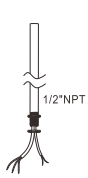
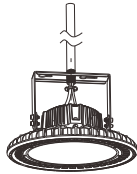

Figure 8
Figure 10
1. Unscrew the nut on a 1/2" NPT. (Figure 8)
3. Re-cycle and tighten the nut (Figure 8) that unscrewed from the 1/2" NPT. (Figure 10)